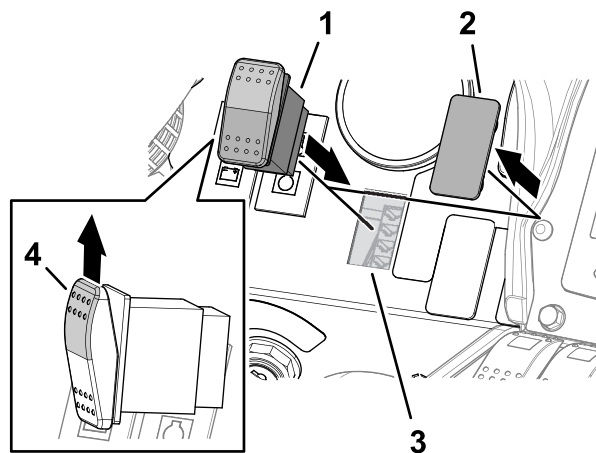

Figure 39
2. Align the 2-position switch with the shoulder of the switch (Figure 39) aligned to the top of the dash panel.
3. Insert the 2-position switch into the hole in the dash panel (Figure 39).
1. Remove the plug in the dash panel as shown in Figure 39.